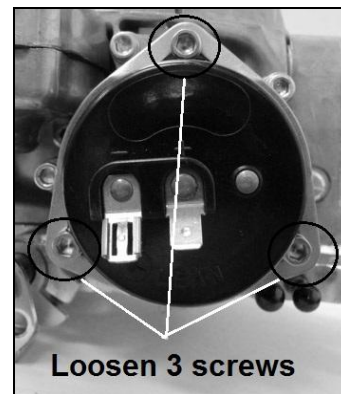

Figure 16
3. Rotating the black pod cover controls the choke timing. To rotate the cover, loosen the three Allen screws that secure the cover to the pod. (See Fig. 16) Rotating the cover clockwise will decrease the amount of time it takes the choke to pull off, while counter-clockwise will increase the time it takes. This adjustment will depend on your climate and the vehicle it is installed on.